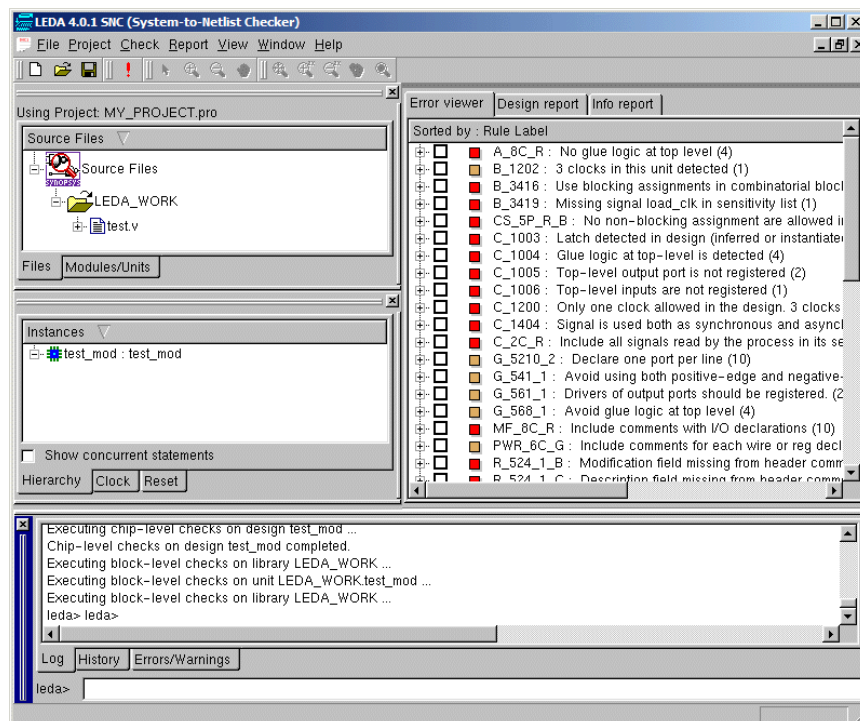

Figure 6: Specifier Project After Build
11. Click Next. This takes you to the Confirm & Create part of the Wizard. Leave the Build with Check checkbox selected and click Finish. If the tool displays a small Get Top Module/Design/Entity window, note that this information is needed for checking chip-level rules. For this exercise, leave these settings at their default values and click the OK button. Leda compiles the Verilog file and executes the Checker. You should see something like the following screen (Figure 6).